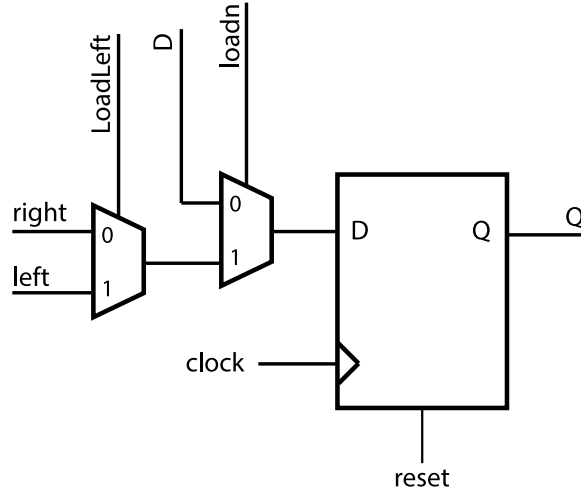
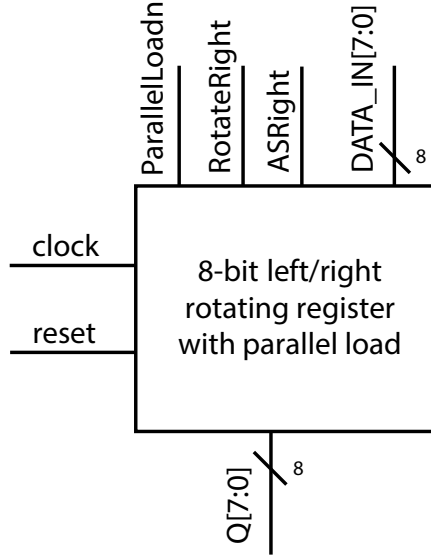

Figure 5: Sub-circuit for Part III.
Figure 6: Top-level circuit for Part III.
Figure 5 shows a positive edge-triggered flip-flop with several multiplexers. In this part of the lab, you will use eight instances of the circuit in Figure 5 to design a left/right 8-bit rotating register with parallel load shown in Figure 6.
The *LoadLeft* input of all eight instances of the circuit in Figure 5 should be tied to the single rotating register input *RotateRight* because when you want to rotate the bits right, you have to load the bit to the left. The *loadn* input of all eight instances should be tied to the single rotating register input *ParallelLoadn*. The *clock* input of all eight instances should be tied to the single rotating register input *clock*. Create an 8-bit-wide rotating register input *DATA_IN*, whose individual wires *DATA_IN₇* to *DATA_IN₀* are tied to the *D* input of each instance of the circuit in Figure 5. Likewise, create an 8-bit-wide rotating register
output Q , whose individual wires Q_7 to Q_0 are tied to the Q output of each instance of the circuit in Figure 5.
The remaining connections between the eight instances of the circuit in Figure 5 should realize the following behaviour:
1. Draw a schematic for the 8-bit rotating register with parallel load. Your schematic should contain eight instances of the sub-circuit in Figure 5 and all the wiring required to implement the desired behaviour. Label the signals on your schematic with the same names you will use in your Verilog code.
2. Starting with the code in Figure 2 for a flip flop, modify it to have an *active-high* synchronous reset. Combine this new flip flop with instances of the *mux2to1* module from Lab 2 to build the sub-circuit shown in Figure 5. To get you started, Figure 7 is a sample of hierarchical code showing the D flip flop with one of the 2-to-1 multiplexers connected to it.
3. Write a Verilog module for the rotating register with parallel load that instantiates eight instances of your Verilog module for Figure 5. This Verilog module should match the schematic in your lab book.